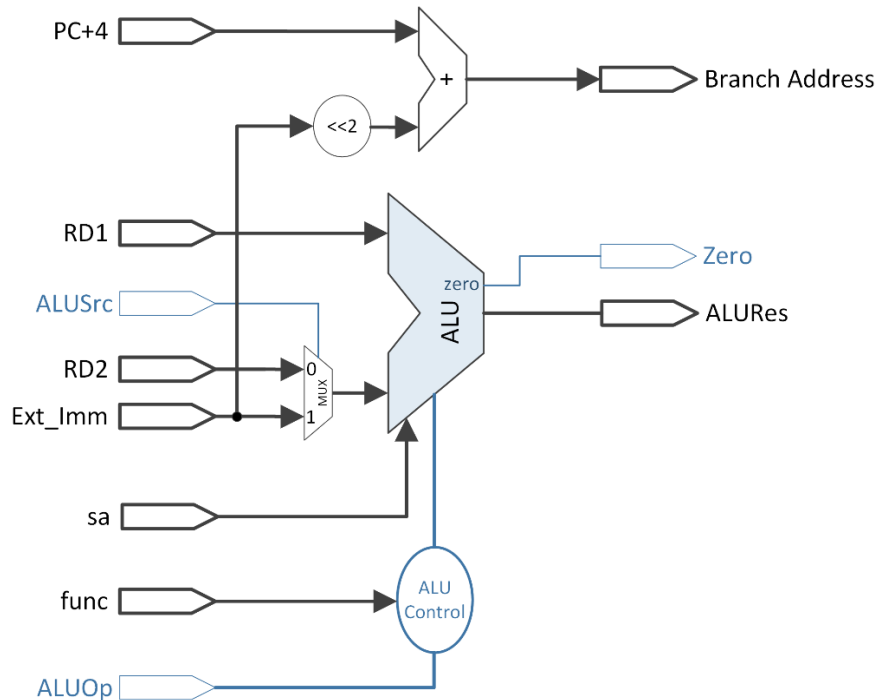

Figure 5: Instruction Execute Data-Path for MIPS 32
The data-path of the Instruction Execute Unit is presented in Figure 5.
Taking into account the instruction execution data-path from Figure 5 design a new component (new entity) in the “test\_env” project for your own single-cycle MIPS 16. All the data fields are 16-bits wide.
The Ex entity will contain the hardware components described in Figure 5, that will not be implemented with other components (use behavioral VHDL description)
**Attention!** Be careful when transforming the data fields from Figure 5 (MIPS 32) into your own single-cycle MIPS 16 implementation.